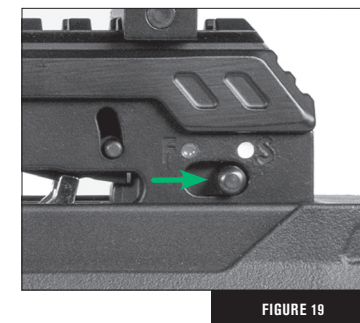

FIGURE 19
To manually engage the safety, slide the safety switch (Part 20) backwards until you hear and feel the safety switch click into place. Confirm that the safety switch has moved from under the (F)IRE position and the red dot to under the (S)AFE position and the white dot, as illustrated in Figure 19.
**⚠️ WARNING:** IF, FOR ANY REASON, THE SAFETY SWITCH WILL NOT FULLY CLICK INTO THE (S)AFE POSITION WHILE THE CROSSBOW IS COCKED, SAFELY DE-COCK THE CROSSBOW BY FIRING AN ARROW AT A SAFE TARGET. DO NOT USE THE CROSSBOW OR ATTEMPT TO COCK IT. PLEASE CALL CENTERPOINT ARCHERY CUSTOMER SERVICE AT (866) 726-1122 TO ARRANGE FOR AUTHORIZED REPAIR.